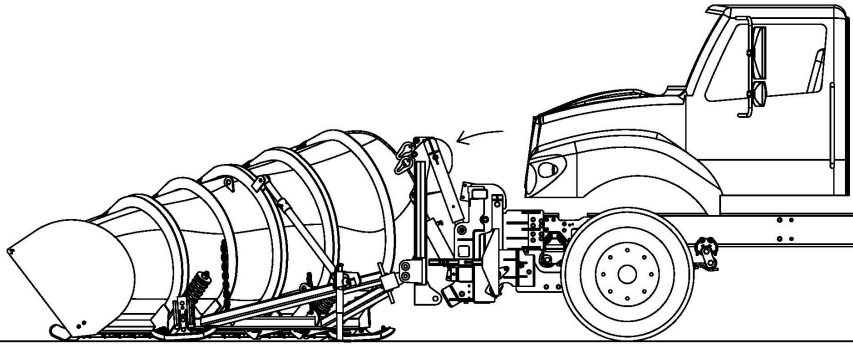

Figure 2: Plow Lowered to Ground
4. Lower the plow to the ground using the plow lift function. Continue to lower until the coupler is disengaged from the hitch top pivot portion. (See Figure 2)